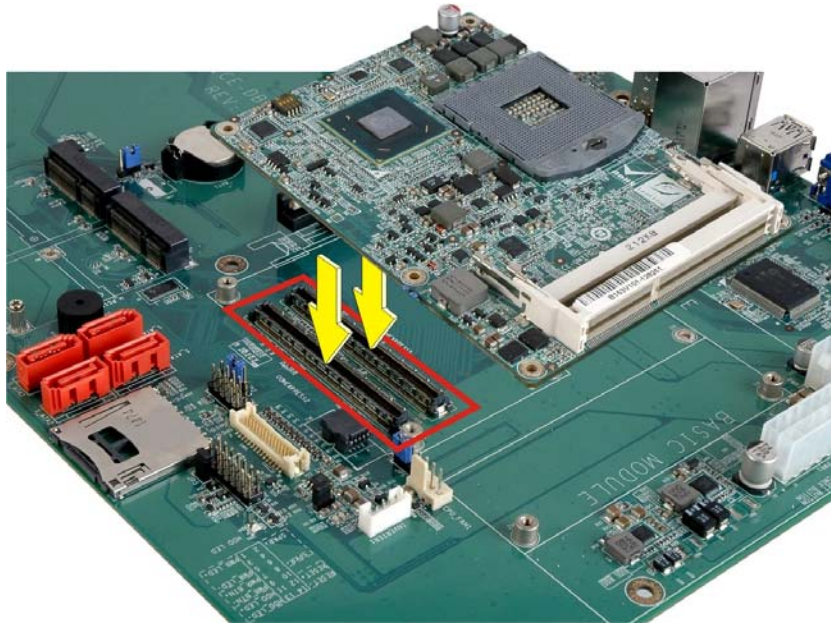

Figure 4-5: Connect the COM Express Connectors
- Step 1:** Align the two COM Express connectors on the reverse side of ICE-QM770 with the corresponding connectors on the baseboard. Gently push the COM Express module down to ensure the connectors are properly connected (**Figure 4-5**).